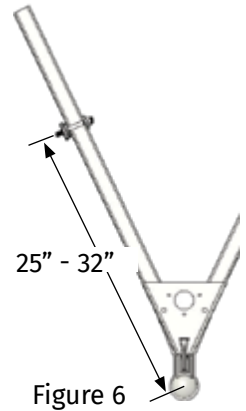

Figure 6
1. Install the bracket assemblies between 25" – 32" from the center of the coupler. (Figure 6) This range should allow you to avoid most obstructions on the trailer tongue like battery supports or propane tanks.